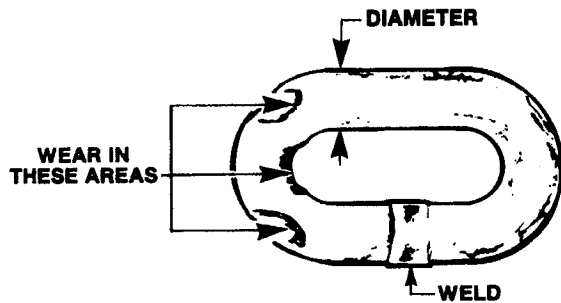

FIGURE 4-4. TYPICAL WEAR ON LINKS
- b. Inspect each link for wear to the diameter of the link (see Figure 4-4). The nominal link diameter is 0.250 inch for chain on models up to EC-2008 and 0.281 inch for models EC-2012 and above. If the diameter of any link of 0.250 chain is worn to less than 0.200, or the diameter of any link of 0.281 chain is worn to less than 0.225, the entire chain must be replaced.